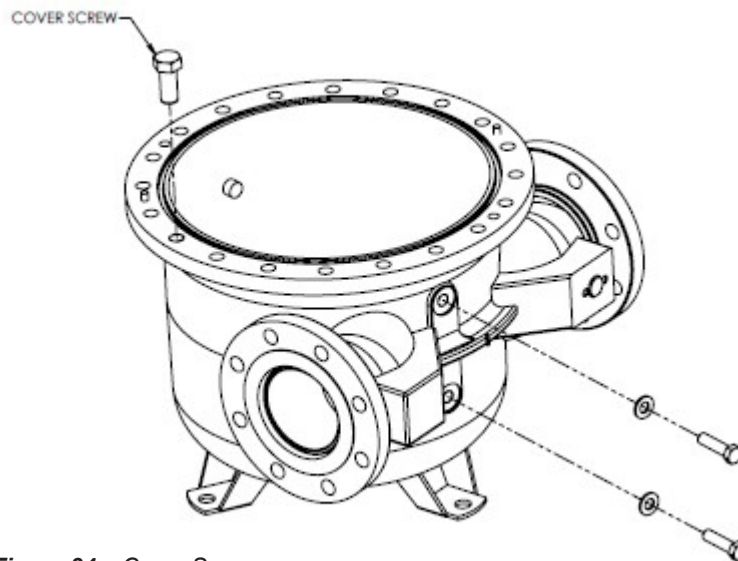

Figure 34 – Cover Screws
- Install cover screws (see Figure 34). Torque screws per Tables 6, 7, 8, 9, 10, and 11.